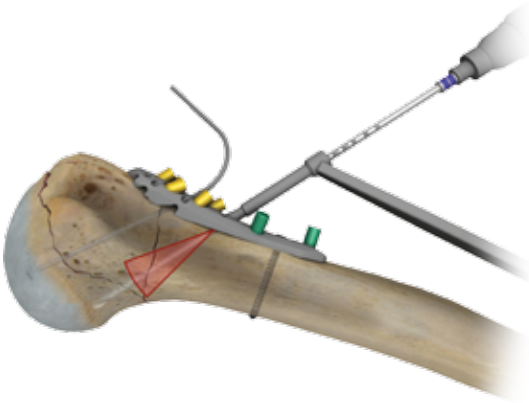

Figure 33
- Drill through the guide with the 2.7 mm Calibrated Drill Bit (Figure 33)